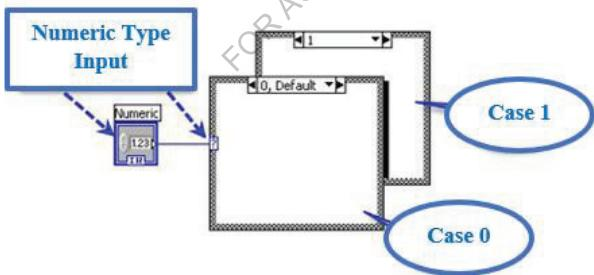

Figure 2.144: Numeric Input Case Structure
- If the input is **Numeric type**, there can be a final number of values. In this case, **Case Structure** contains only **two cases**, and you can add the cases you want, as shown in figure 2.144.